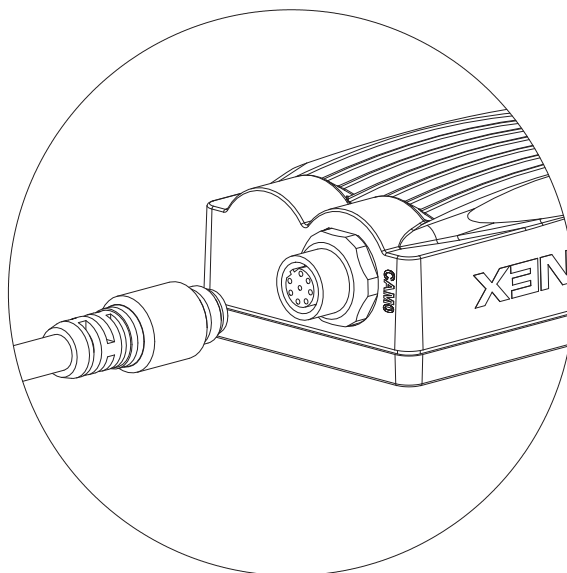

Figure 2-4: CAM0 Connection
2. Attach the Camera cable's male M12 connector to the vision system's CAM0 connector (Figure 2-4).